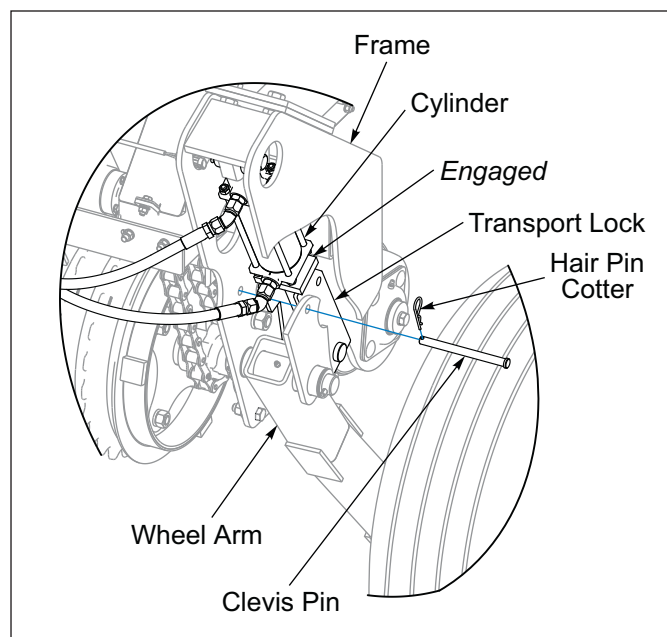

Figure 3-6: Transport Lock Engaged
5. If Transport Locks are not engaged, fully extend the Hydraulic Lift Cylinders and rotate Transport Locks in the engaged position over the Cylinder Rods. Secure with the Clevis Pins and Hairpin Cotter. **See Figure 3-6.**
7. Raise the Seeder completely and install Transport Locks. **See Figure 3-6.**